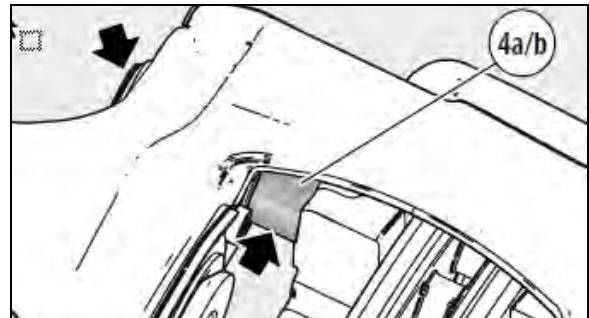

FIGURE 49: FREE GUIDE PIN OF DIRT
5. Push caliper inboard towards vehicle's center (see Figure 49).